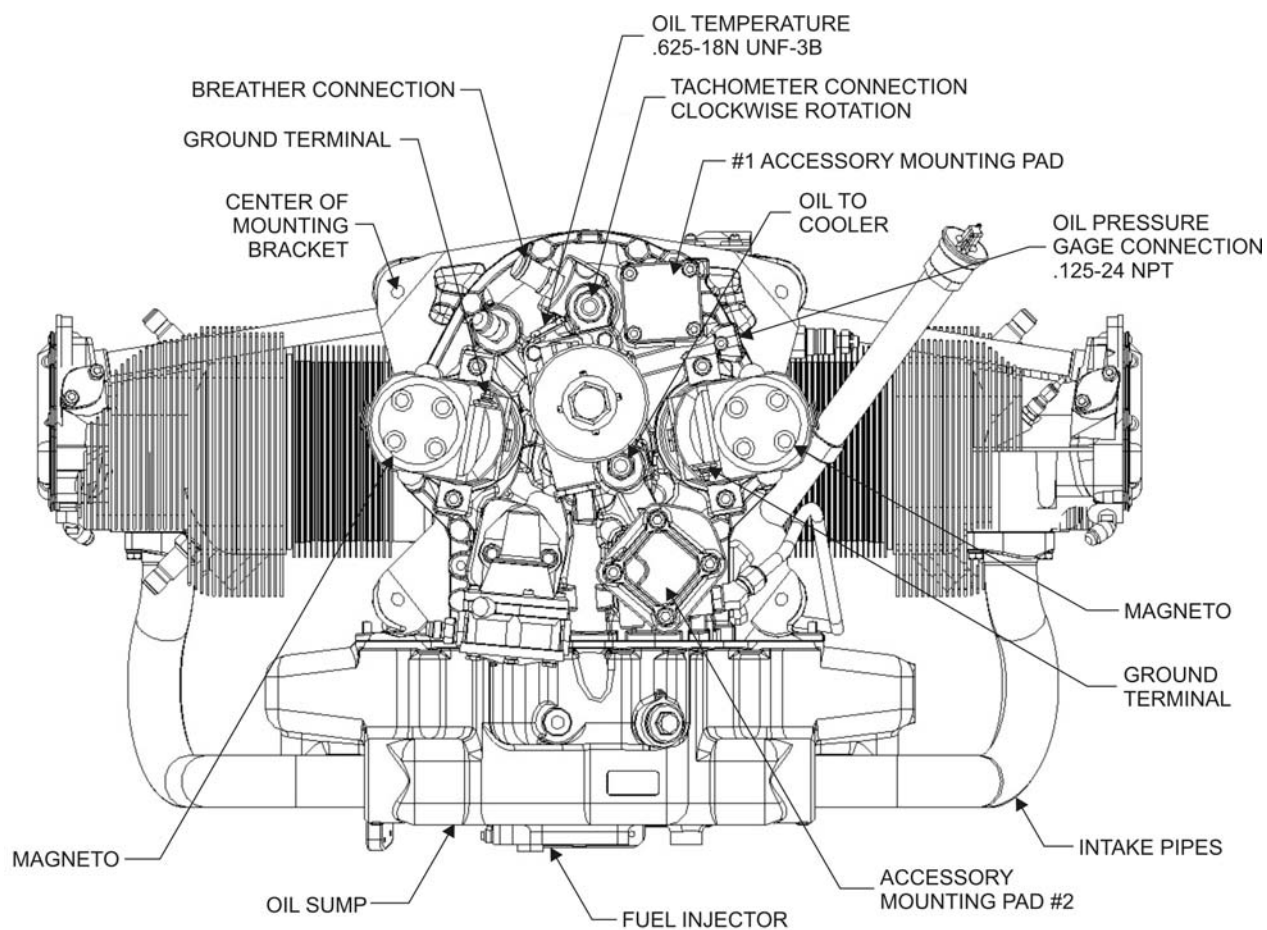

Figure 2-3. Installation, Rear View
- a. Refer to installation drawing, Figure 2-3. Remove cover plate and gasket. When installing the accessory, use the gasket and hardware specified by the airframe manufacturer. Torque to the value specified for the thread size in the Table of Limits, IO-390-A Series Maintenance and Overhaul Manual.